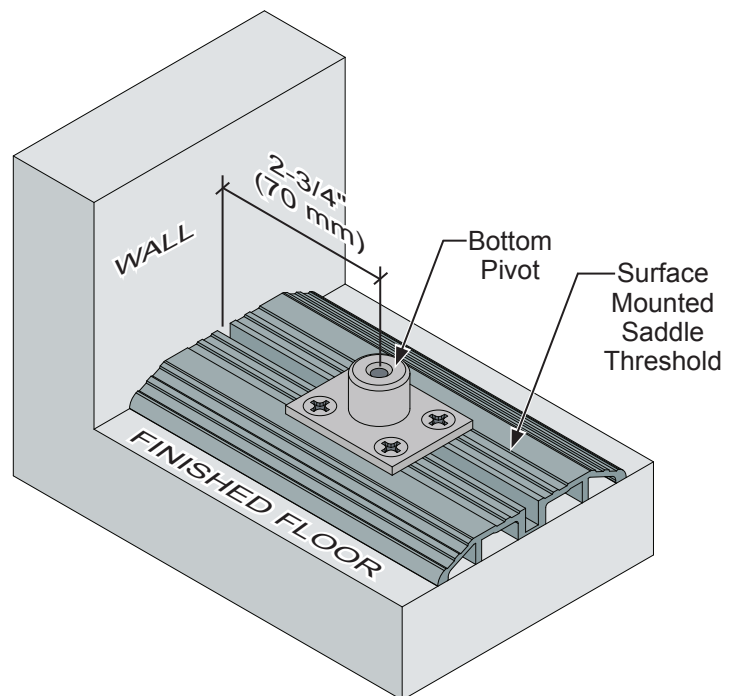

FIG. 7
2. The bottom pivot is installed onto the surface mounted saddle threshold 2-3/4" (70 mm) from the wall and on the Centerline of the surface mounted saddle threshold. **(Fig. 7)**